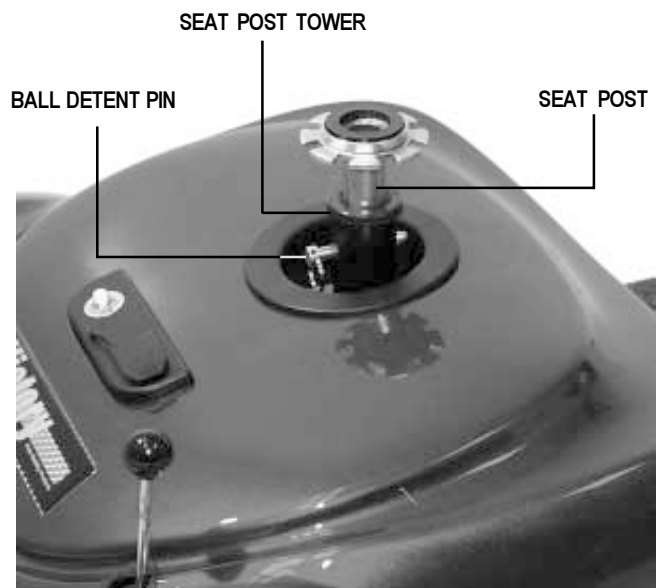

Figure 15. Seat Height Adjustment
2. Use the attached ring to pull and remove the ball detent pin from the seat post tower. See figure 15.